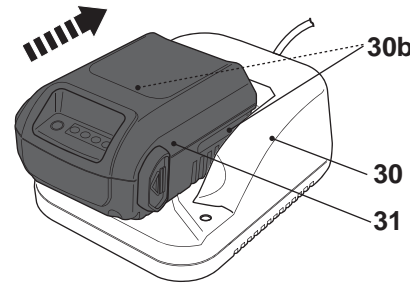
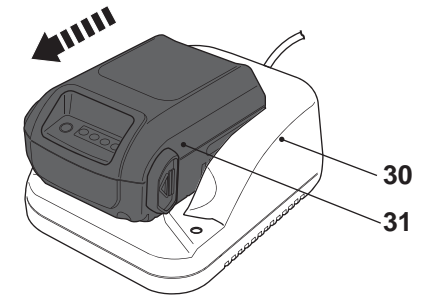

Fig. 9
Fig. 10
- Align and slide the battery pack (31) onto the sliding slots (30b) of the charger (30) all the way to the stop (Fig. 9).
- Connect the charger (30) to the power supply.
- Once charging is done (this normally takes approx. 1 hour, see below "Power / charging status indicators" section for charging status), disconnect the charger (30) from power supply.
- Remove the battery pack (31) from the charger (30) (Fig. 10).